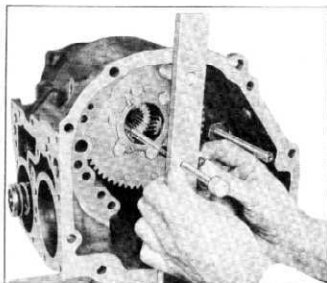

Fig. 127—Measuring Sun Gear Depth
- b. To measure distance from case flange to reverse sun gear, loosen set screw of tool J-4260 and place bar of tool against case flange with stem of tool against face of reverse sun gear. While holding tool in this position, tighten thumb screw (fig. 127).